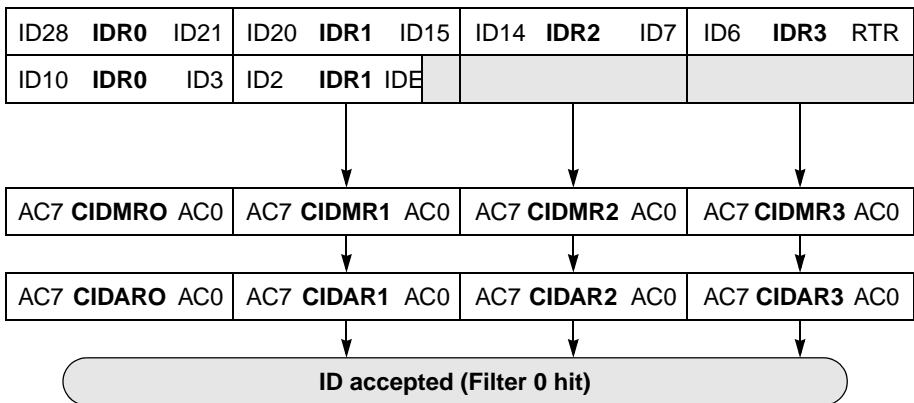

Figure 17-3. 32-bit Maskable Identifier Acceptance Filters
- Two identifier acceptance filters, each to be applied to a) the full 29 bits of the extended identifier and to the following bits of the CAN frame: RTR, IDE, SRR or b) the 11 bits of the standard identifier, the RTR and IDE bits of CAN 2.0A/B messages. This mode implements two filters for a full length CAN 2.0B compliant extended identifier. Figure 17-3 shows how the first 32-bit filter bank (CIDAR0–3, CIDMR0–3) produces a filter 0 hit. Similarly, the second filter bank (CIDAR4–7, CIDMR4–7) produces a filter 1 hit.